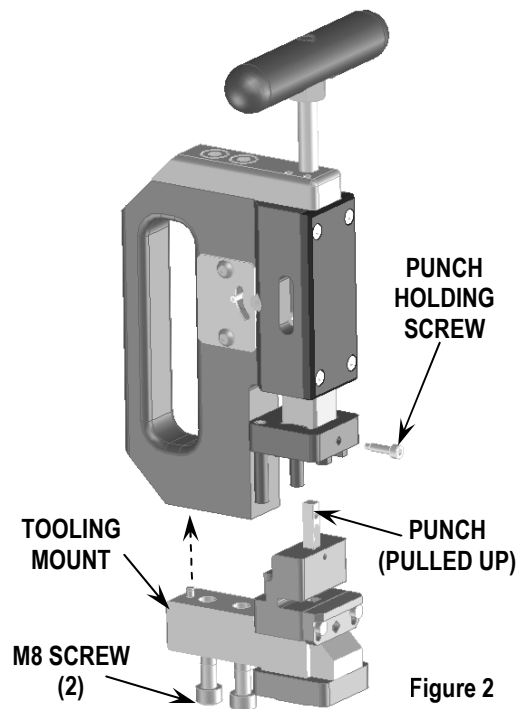

Figure 2
**Note:** For changeover details, see Figure 2